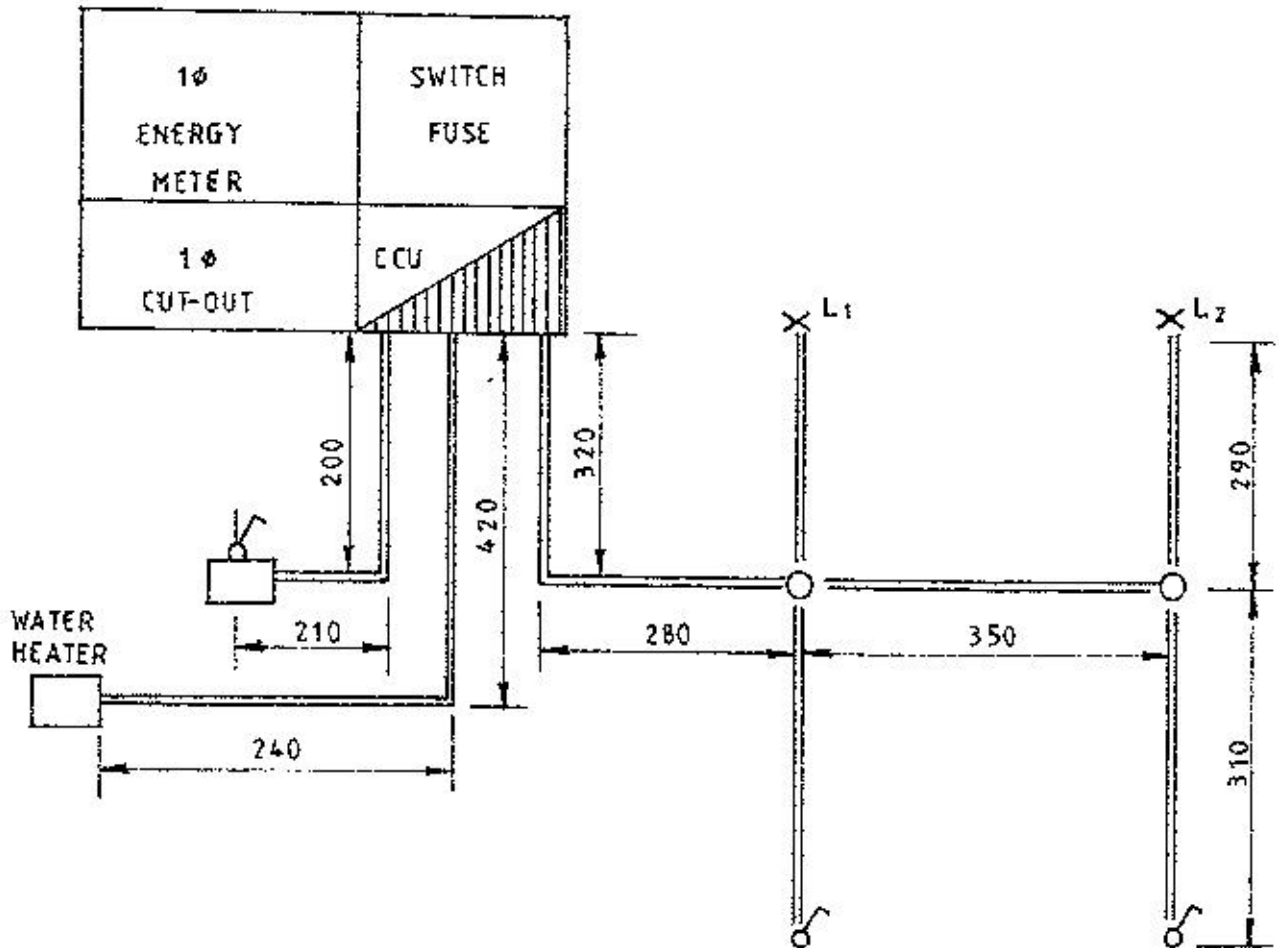

Fig. 1
1. Figure 1 shows the layout of consumer equipment at intake point and three final circuits. The consumer equipment at intake point is pre-installed.